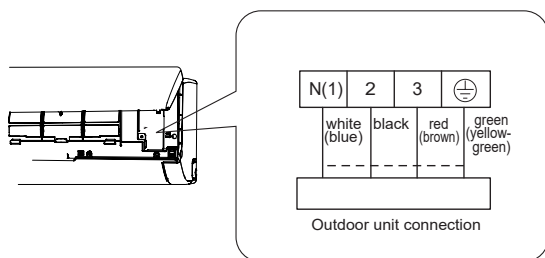

Fig.13
(3) Remove the wire clip; connect the power connection wire to the wiring terminal according to the color; tighten the screw and then fix the power connection wire with wire clip.After finishing wiring, clamp the grounding wire (yellow-green wire) into the wire-crossing groove (As show in Fig.13), in order to avoid pressing the wire when closing the electric box cover. (As show in Fig.13)